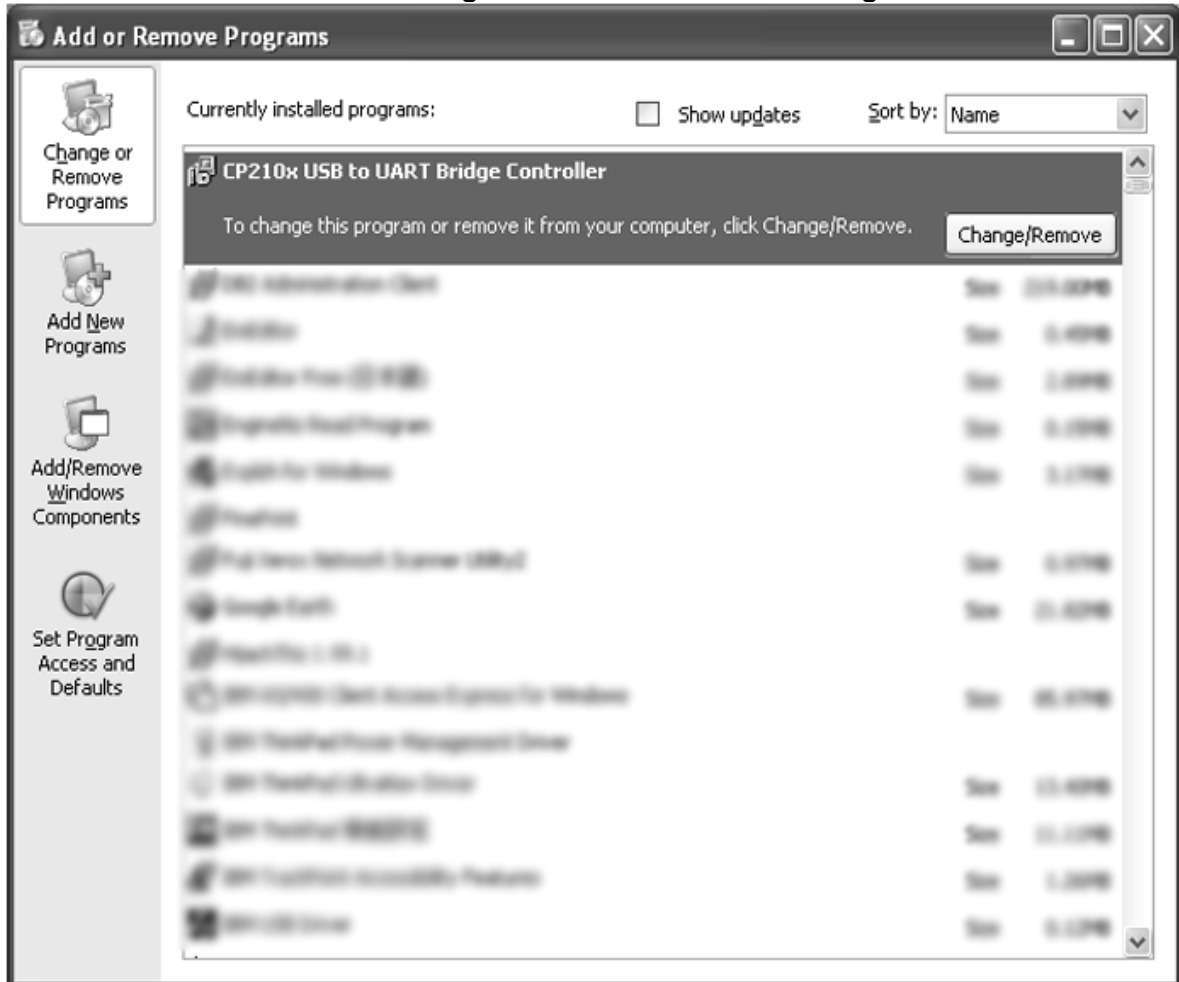

Fig. 75 Add or Remove Programs
- (1) Click **Add or Remove Programs** in the control panel.
- (2) Change or Remove Programs shown in Fig.75 appears.